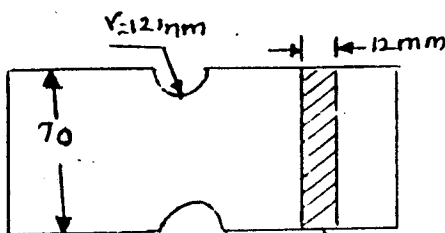

Fig. 2(b)
- 2 a. Determine the safe load that can be carried by a bar of rectangular c/s shown in the Fig. 2(a) limiting the maximum stress to 130 MPa taking stress concentration into account. (10 Marks)
- b. A rectangular plate with semi-circular groove of radius 12 mm (shown in fig.2 (b)) is subjected to i) A tensile force of 10 kN and ii) A bending moment of 15 N-m. Determine the maximum stress induced in the plate in each case. (10 Marks)